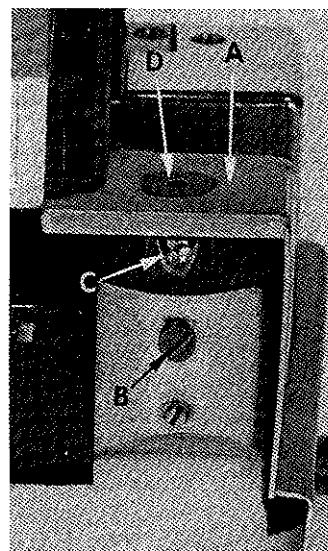

Fig. 15
**CAUTION:** When removing the cloth plate (A, Fig. 15) loosen the cloth plate stud locking screw (B) and lift up cloth plate with the cloth plate stud (C) and cloth plate screw (D), assembled.